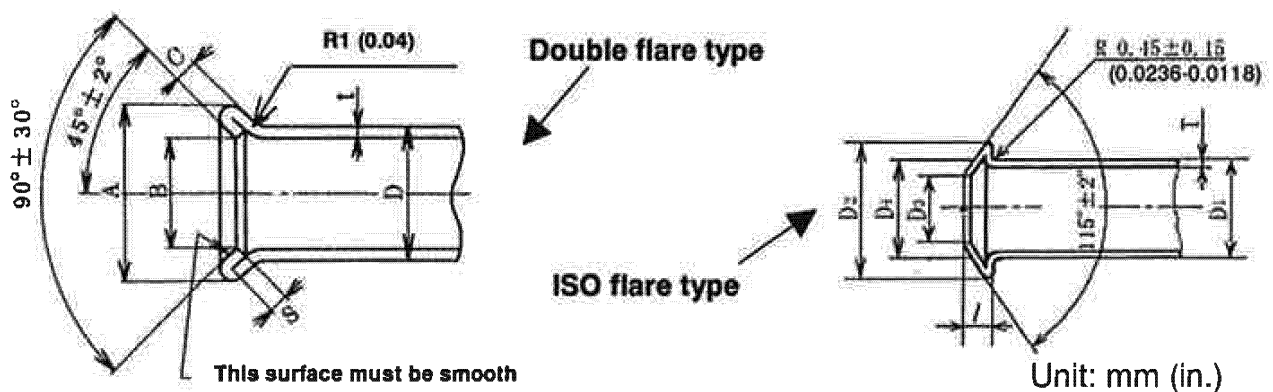

Fig. 1
- Only use metric pipe tools to form the flared end of brake lines as shown in the "Flared end shape figure" in Fig. 1. Be careful to not scratch the tubes, or damage the mating surfaces when flaring the ends.